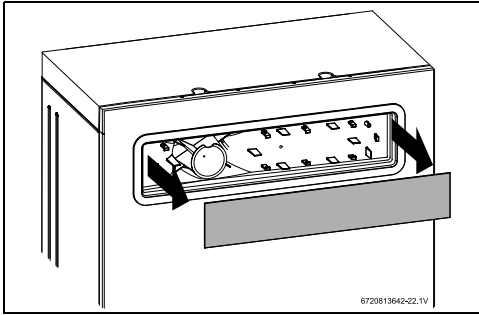

Fig. 50 Remove protection
- Remove the protection from the front cover, see fig. 50.